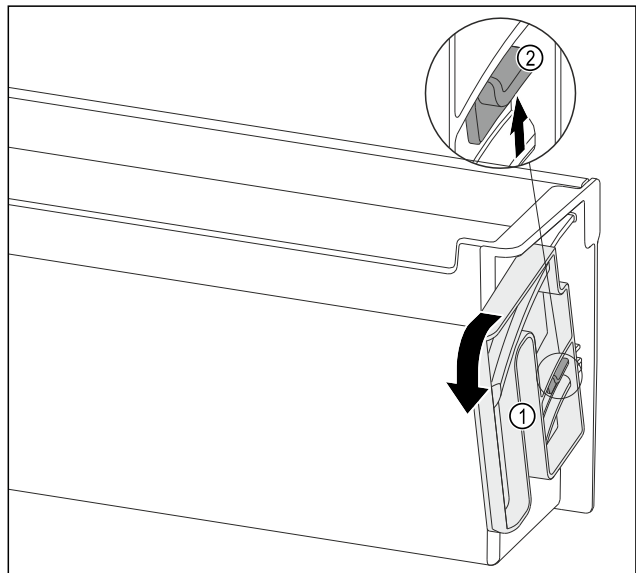

Fig. 112
- ▶ Turn the turning unit Fig. 112 (1) in the specified direction to the end stop.
- ▶ Press the tab Fig. 112 (2) up and remove the turning unit Fig. 112 (1).